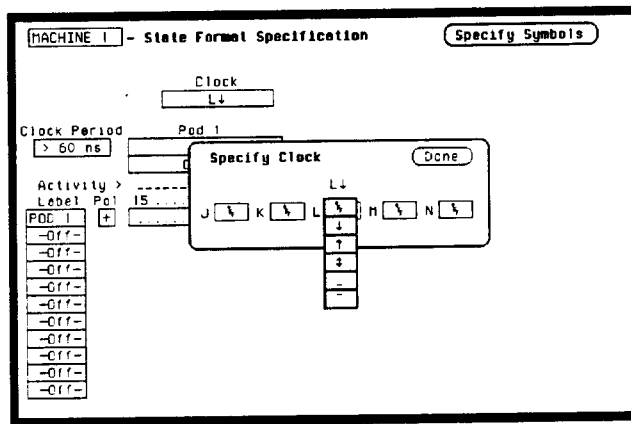

Figure 3-7. Clock Assignment for Data Test 1
- b. Move the cursor to **Clock** field. Then use the cursor and **SELECT** key to assign the falling edge of the appropriate clock as in figure 3-7.